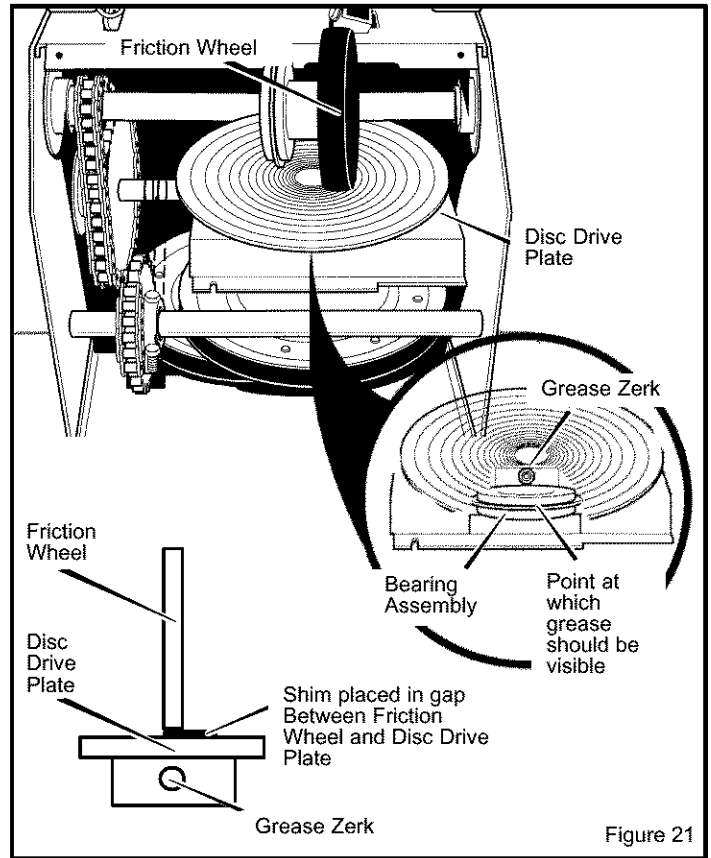

Figure 21
1. Position speed selector lever in first (1) forward gear.
4. Turn disc drive plate clockwise by hand until grease zerk is clearly visible at front center (see Figure 21).
5. Place a coin or (a shim of equal thickness) between the rubber friction wheel and disc drive plate to prevent rubber friction wheel contacting the drive disc (see Figure 21).
6. To grease zerk, use a hand grease gun, lubricate with a Hi Temp EP Moly grease. See inset of Figure 21. **DO NOT** over fill or allow grease to come in contact with the disc drive plate or friction wheel or damage will result. Fill zerk only until grease becomes visible below bearing assembly located under grease zerk.